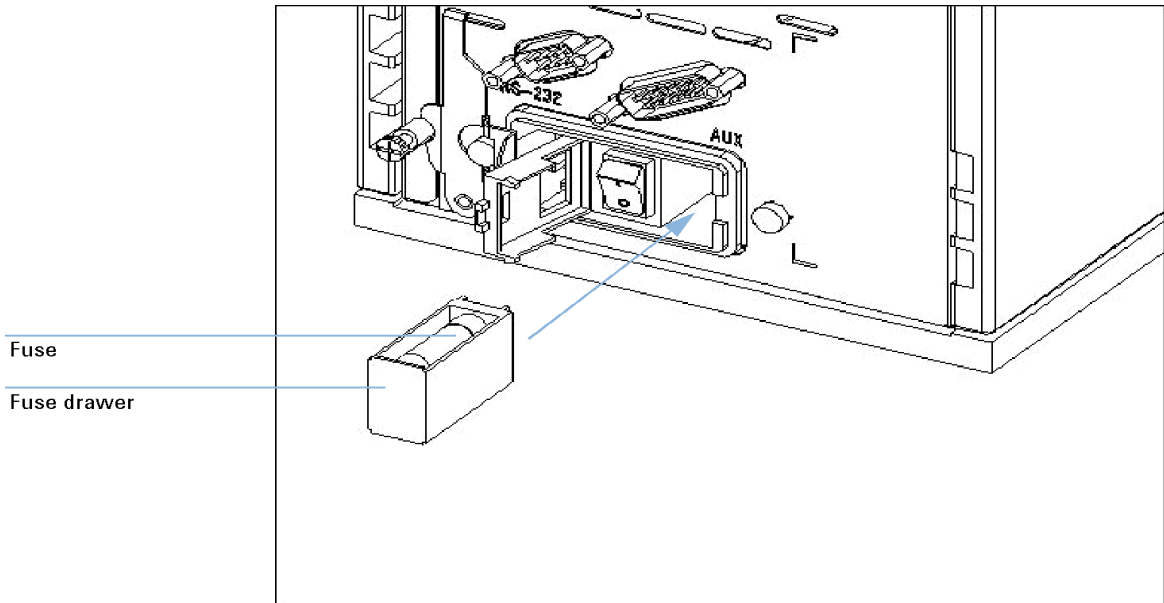

Figure 16 Insert fuse drawer
- Slide in the fuse drawer and push till it fits tightly as shown in Figure 16 on page 189.